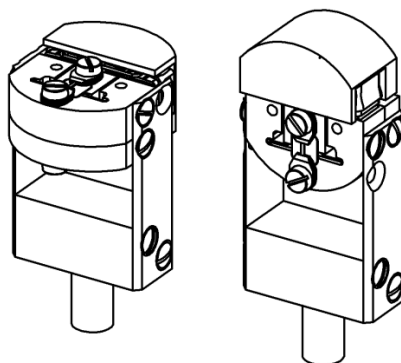

Figure 6: Typical mounting for use in a 1-inch sample space
- ✦ A compliant holder, such as that shown in Figure 6, where the sides for the yoke can bend in and out to take up thermal expansion, or
There should be nothing in contact with the “bridge”, i.e. the part at the other end of the stacks from the body of the cell, covered by a thin foil, as this needs to be free to move during operation. Figure 6 shows a yoke suitable for use in a 1-inch sample space with the cell horizontal or vertical. For the Quantum Design PPMS, Razorbill instruments can provide complete probes, contact us for more information. For other cryostats, Razorbill Instruments can provide advice, design assistance, or custom parts to assist with mounting.